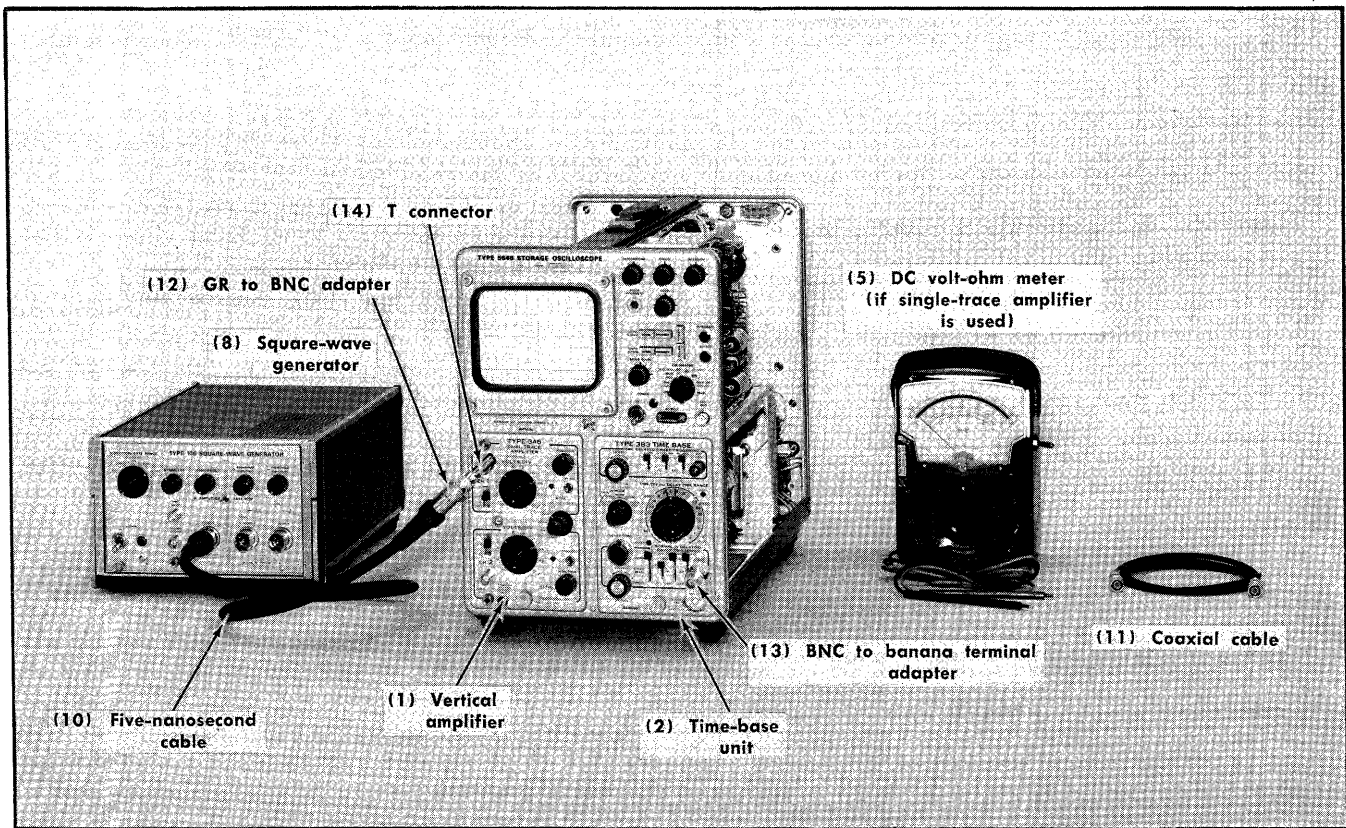

Fig. 5-5. Test equipment required for steps 7 through 16.
a. Test equipment required for steps 7 through 16 is shown in Fig. 5-5. The illustrated equipment is keyed to that listed under Test Equipment Required. If the vertical amplifier unit has only single-trace capabilities, use the substitute procedure following step 7.